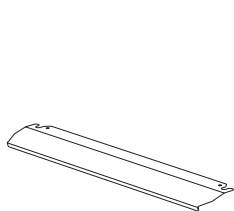

Figure 29
1. A safety panel is designed to protect control panel and the buttons when the oven is in grill mode. (figure 29)